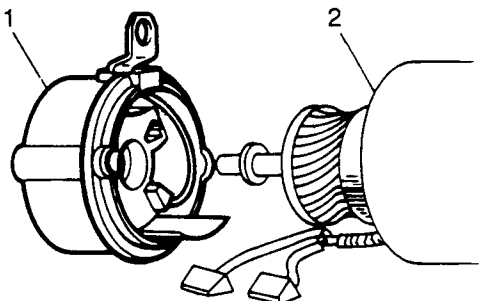

Fig O6.20
- (1) Refer to Fig O6.20. Hold the commutator end cover (1) close to the yoke (2) and fit the brushes into their correct housings in the brush box moulding.
(2) Fit the commutator end cover to the yoke and align the holes for the through bolts.